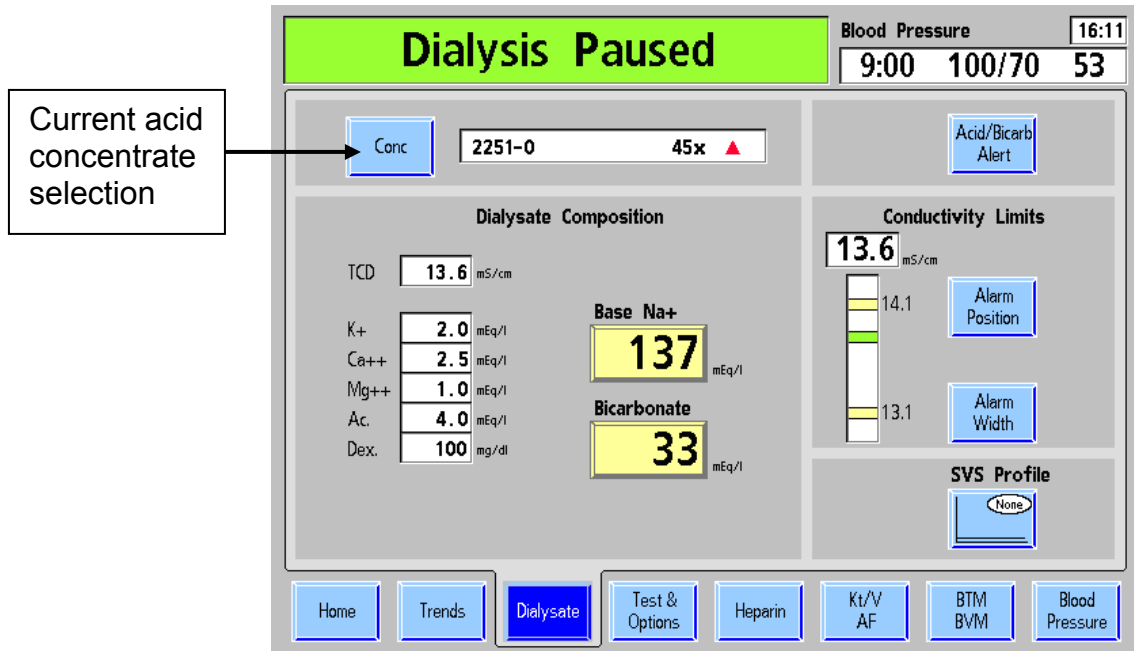

Figure 14 – The Dialysate Screen
3. If the machine is being prepared for normal dialysis, touch the **Dialysis** button on the touch screen. The Dialysate screen will appear on the monitor (see Figure 14).